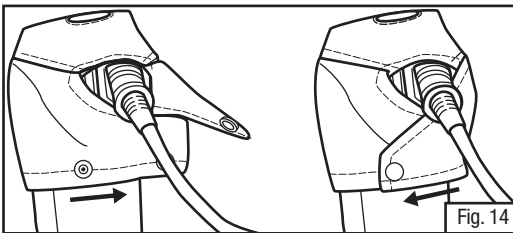

Fig. 14
7. With the power cord securely connected and the motor blower running, re-position the top flap of the holster over the adapter and battery and secure snaps in place. To do this, you will need to crisscross either side of the top flaps (Fig. 14). Make sure adapter indicator light can be seen through clear window on top of holster (Fig. 15).